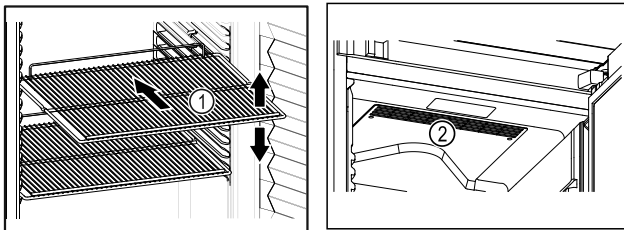

Fig. 59 Example illustration Fig. 60
- ❑ If there are adjustable shelves Fig. 59 (1), position them as required.